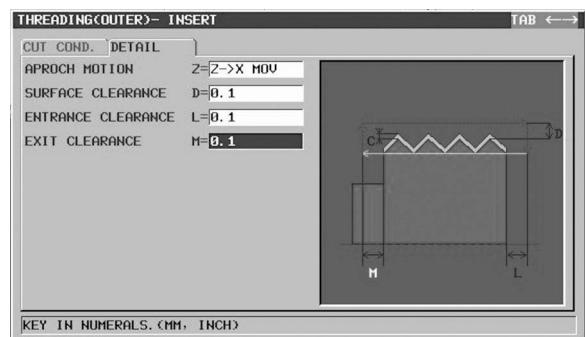

Figure 7-34 THREADING DETAIL
46. Complete the THREADING dialog DETAIL tab per Figure 7-34.